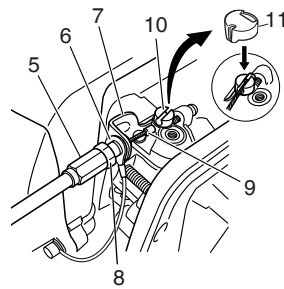

Fig. 5
Connect throttle wire end (9) to carburetor (10) and install swivel cap (11) (if so equipped) where is included in tool bag, onto swivel (10) (Fig. 5).